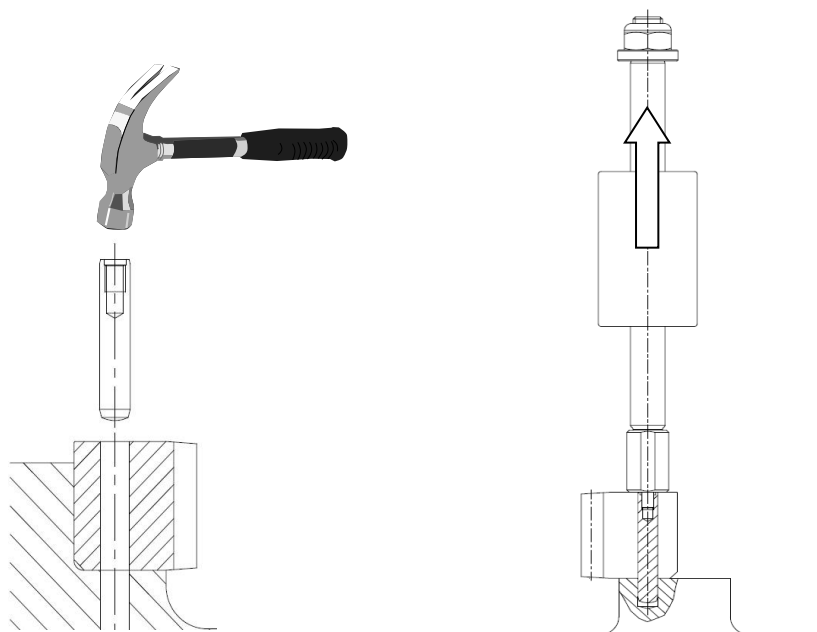

Fig. 15
- 8.6 Clean the scraps after reaming and apply pin to fix the rack on the machine bed. For an easy disassembly it is recommend using the pins with internal thread hole. The special tool as shown in Fig. 15 can be used to release the pin and without damage the rack.